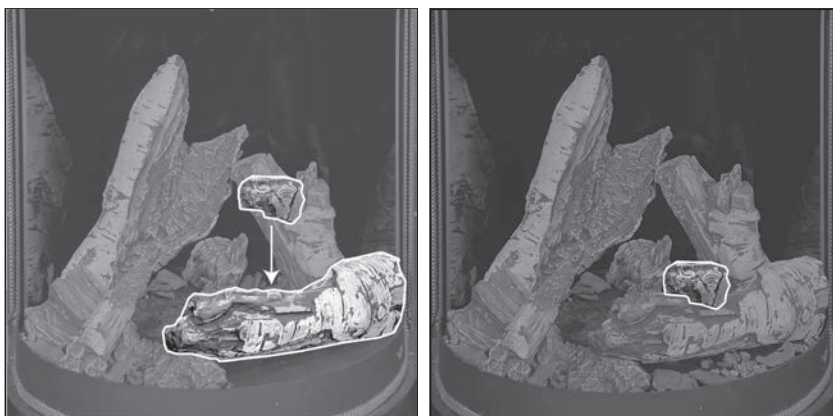

**Figure 99: Log 7 Placement (Top View)**
**\*Note:** It is important that Log 7 is placed correctly as specified in the instructions. There is a notch located on its back side (facing the burner) that should be placed to the right of the pilot as shown in Figure 99. Failure to place the log properly could result in problems with the pilot.